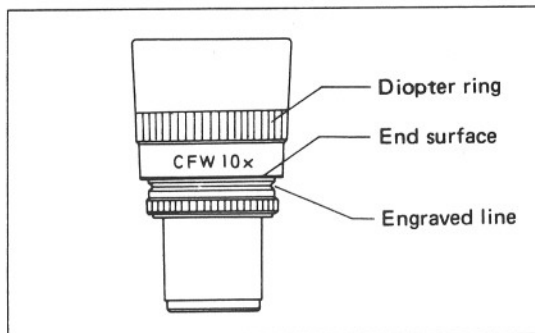

Fig. 12
- Turn the diopter ring on each eyepiece, until the end surface of the milled ring coincides with the engraved line, as shown in Fig. 12.